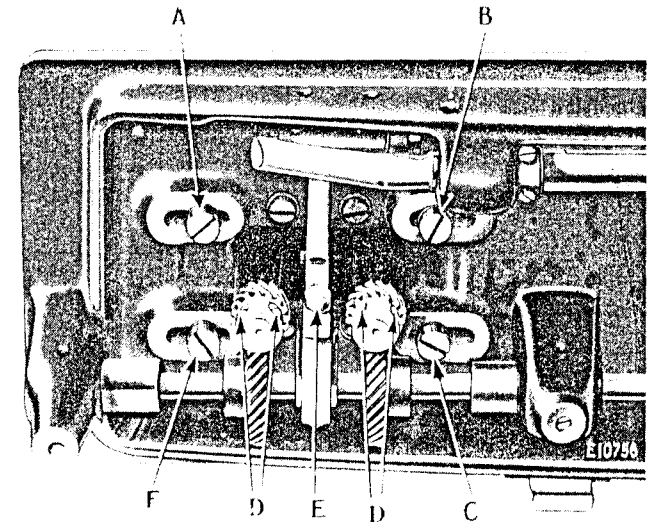

Fig. 19. Adjustment of Hook Saddles
In case the sewing hooks are not correctly timed, turn balance wheel over toward you until needle bar has descended to its lowest point and has risen until the lower timing mark across the needle bar is just visible at the end of the needle bar frame. Then loosen the four screws (D, Fig. 19) in the hook shaft gears and turn the sewing hooks until the point of each hook is at the centre of its needle, after which securely tighten the four screws (D), leaving just enough end play to the shaft for lubricating purposes.
Turn the balance wheel over toward you until the points of the sewing hooks are at the centre of the needles. Loosen the four screws (A, B, C and F, Fig. 19) underneath the bed of the machine and move the hook posts to the right or left, as may be required, until the points of the hooks are as close to the needles as possible without striking them, then securely tighten the four screws (A, B, C and F).
Remove the throat plate; clean the lint and dust from between the feed points and replace the throat plate; tip the machine back and turn the balance wheel towards you until the feed dog is at its highest position; loosen screw (E, Fig. 19) in the feed lifting cam fork and raise or lower the feed dog, as may be required, then retighten the screw (E).
Change the needle holder, throat plate, feed dog and presser foot, then loosen the four screws (A, B, C and E, Fig. 19) which hold the hook posts and move each post until the point of the hook runs as close to the needle as possible without striking, then time the hooks as instructed on page 17.